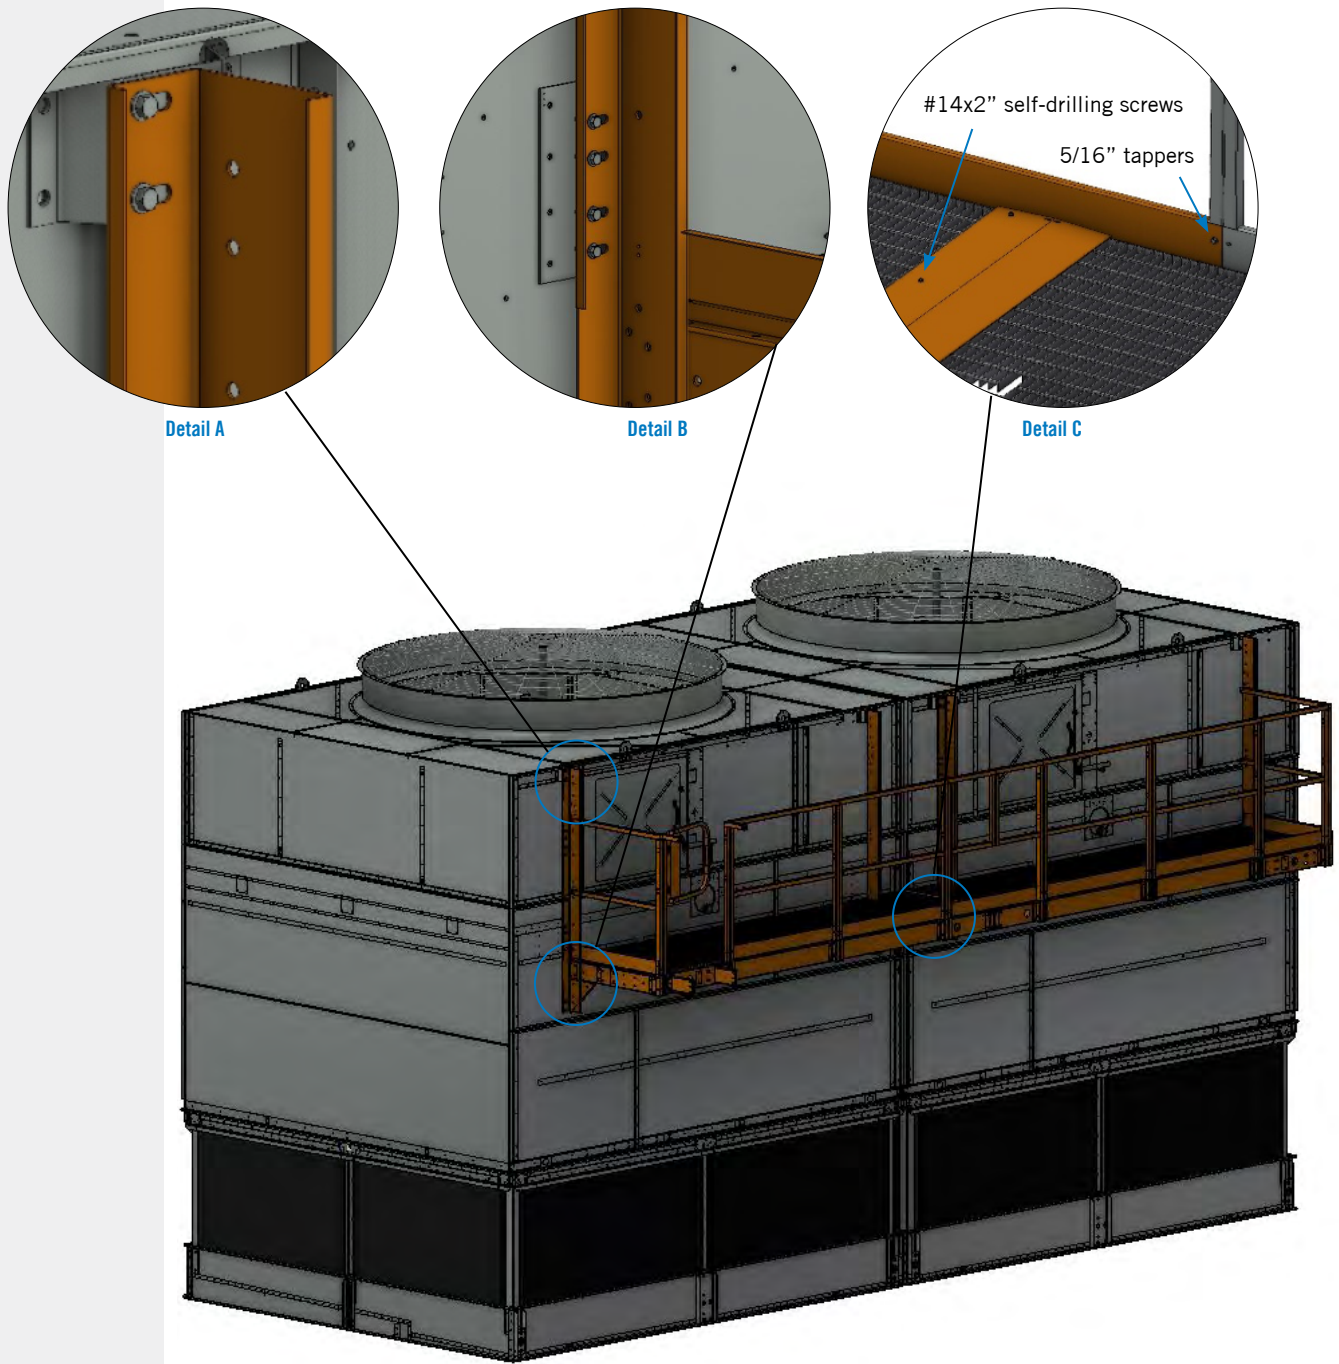

Figure 35. Mechanical Access Platform for Two Cell PT2-0814 and PT2-1214 Units
2. For multi-cell units, install the connecting plates and toeboard as shown in **Figures 35** and **36, Detail C**, using the included #14x2" self drilling screws for the cover plate and 5/16" tappers for the toe boards.